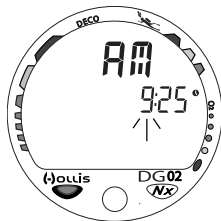

Fig. 24 - Set Time
- While the Surface Sequence is scrolling, depress the button until the Set Time screen appears with the Hour digits flashing (Fig. 24), then release the button; or when the screen appears after having set Units.